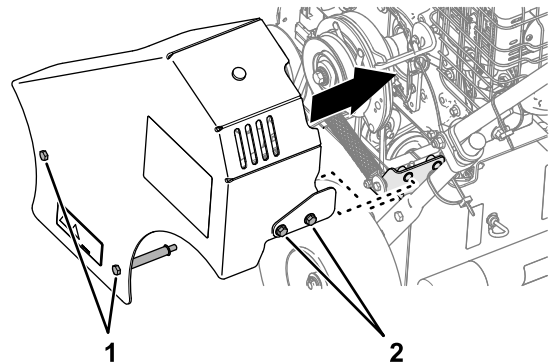

Figure 25
1. Align the belt guard, capscrews, and flange-head bolts with the holes in the side frame plate and the spring bracket (Figure 25).
2. Assemble the belt guard to the machine with the 2 capscrews, and 2 flange-head bolts (Figure 25).